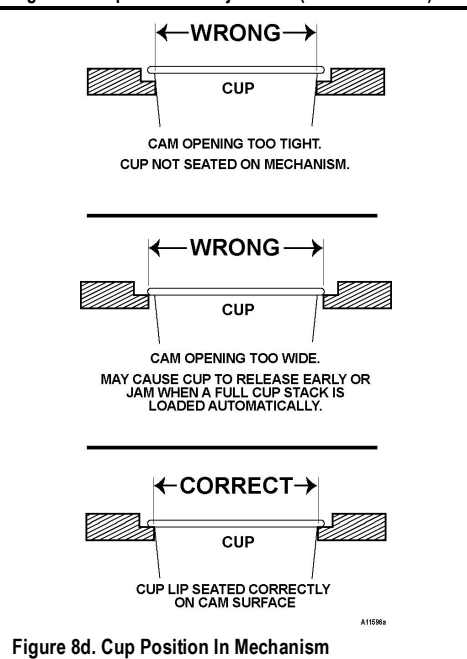

Figure 8d. Cup Position In Mechanism
- 3a. Adjust the cup mechanism back and forth so that the cup lip rests on top of the circular cams of the cup dispenser mechanism. See **Figure 8d**.